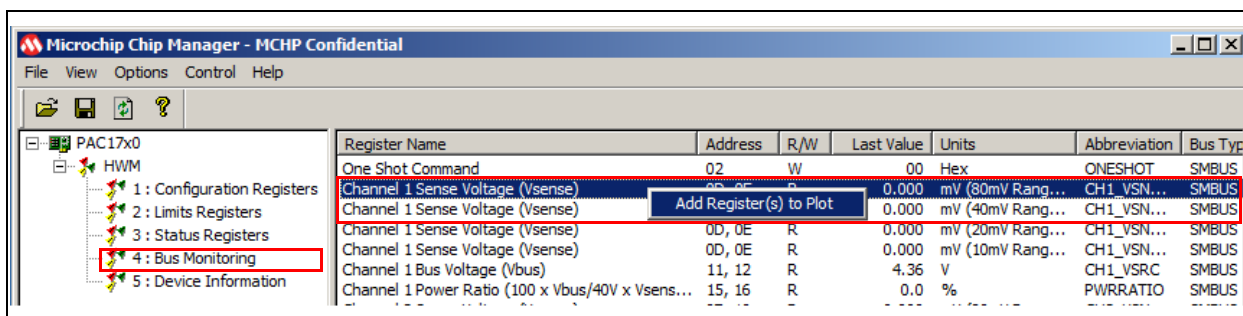

FIGURE 5-1: Selecting Register to Plot.
1. In the Chip Manager application, select Bus Monitoring from the left pane to show registers. Right-click a V_{SENSE} range and add it to the registers to plot (see Figure 5-1 and Section 4.1.2 “Selecting Registers to Plot”).